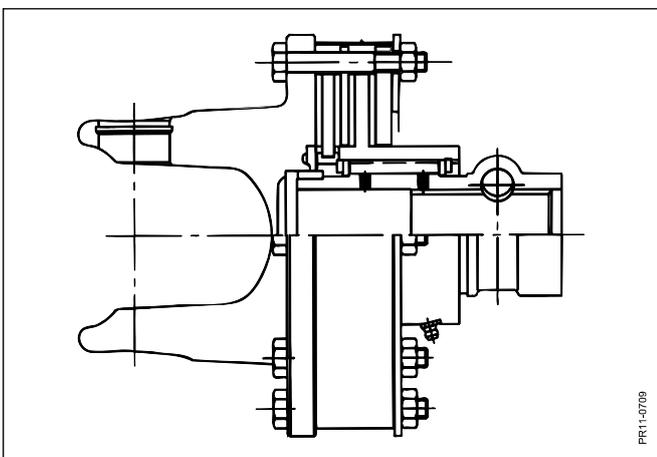

Fig. 6.4
**Fig. 6.4** Disassemble the principal friction clutch and clean the parts to avoid rusting. Check if the clutch discs are worn and replace them if necessary. Clean and grease the overrunning clutch, then assemble and mount the clutch again (see also the instructions supplied with the PTO drive shaft).